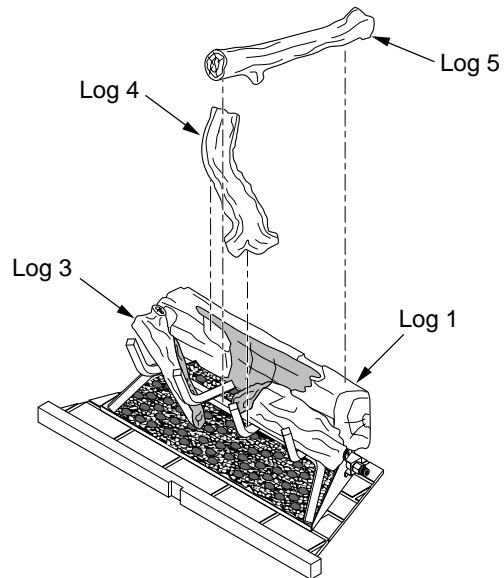
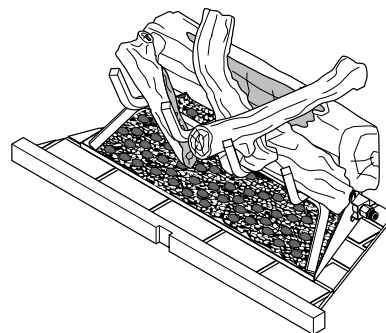

Figure 27 - Installing Logs 4 and 5
Figure 28 - Logs Installed
4. Place top of log 4 into notch on log 1. Rest log 4 on the center of grate as shown in Figure 27.
5. Place top of log 5 into notch on top right of log 1 (see Figure 27). Rest log 5 between two middle grate fingers as shown in Figure 28